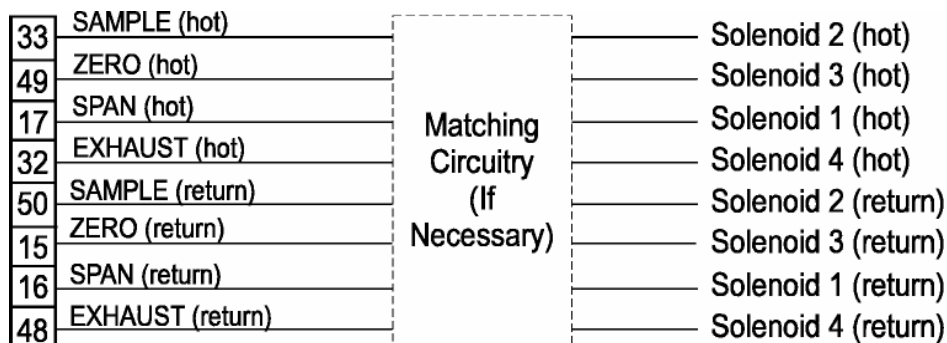

Figure 3-4: Remote Probe Connections
- Span:** Floating input. 5 to 24 V input across the + and – pins places the analyzer into the Span mode. Either side may be grounded at the source of the signal. 0 to 1 volt across the terminals allows Span mode to terminate when done. A synchronous signal must open and close external span valve appropriately. See Figure 3-4 Remote Probe Connector. (The –C option internal valves operate automatically.)
**Remote Valve Connections:** The 3000RS-TXL is a single-chassis instrument, which has no Remote Valve Unit. Instead, the Remote Valve connections are used as a method for directly controlling external sample/zero/span gas valves. See Figure 3-4.